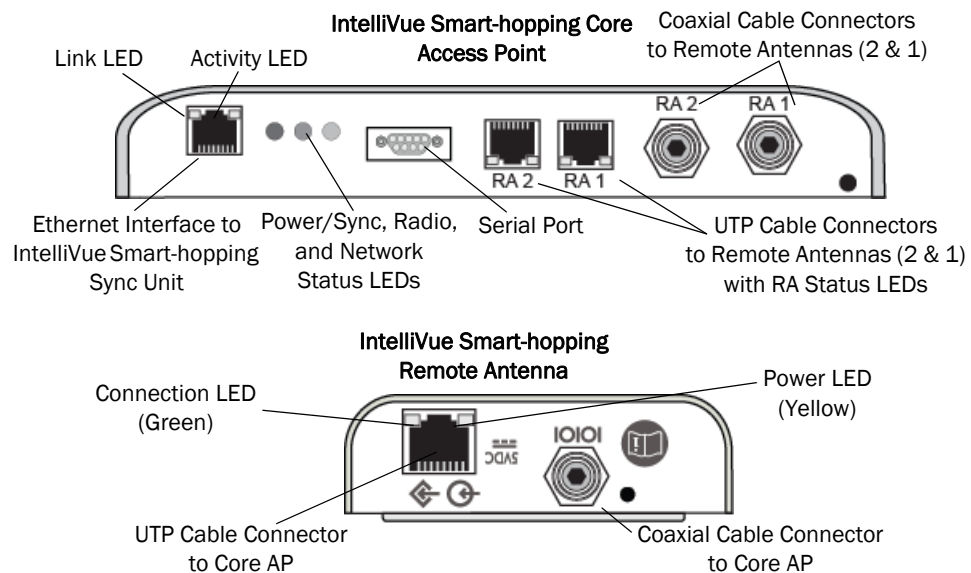

Figure 3-1: Smart-hopping Core AP and Remote Antenna Controls and Connectors
- a) Connect the first Remote Antenna to the Core AP using the UTP and Coaxial cable connectors labeled **RA 1** in Figure 3-1.
- b) Connect the second Remote Antenna to the Core AP using the UTP and Coaxial cable connectors labeled **RA 2** in Figure 3-1.